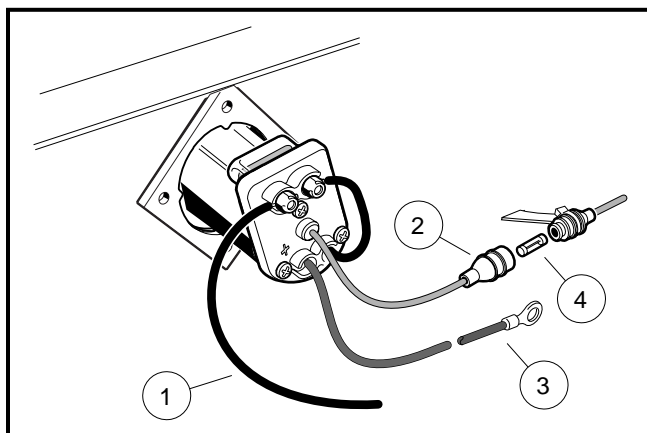

Figure 4-5 PowerDrive Charger Receptacle
9. Remove the locknut that connects the black wire (1) to the charger receptacle (**Figure 4-5, Page 4-5**).
10. Disconnect the yellow fuse holder (2) from the wire harness (**Figure 4-5, Page 4-5**).
11. Remove the #10 red wire (3) from the large solenoid post (**Figure 4-5, Page 4-5**).
6. Tighten the nut securing the #10 black wire (1) to the charger receptacle to 23 in-lb (2.6 N-m) (**Figure 4-5, Page 4-5**).
7. Remove the locknut that connects the black wire (1) to the charger receptacle **(Figure 4-5, Page 4-5)**.
8. Disconnect the yellow fuse holder (2) from the wire harness (**Figure 4-5, Page 4-5**).
9. Remove the #10 red wire (3) from the positive post of the #1 battery (**Figure 4-5, Page 4-5**).